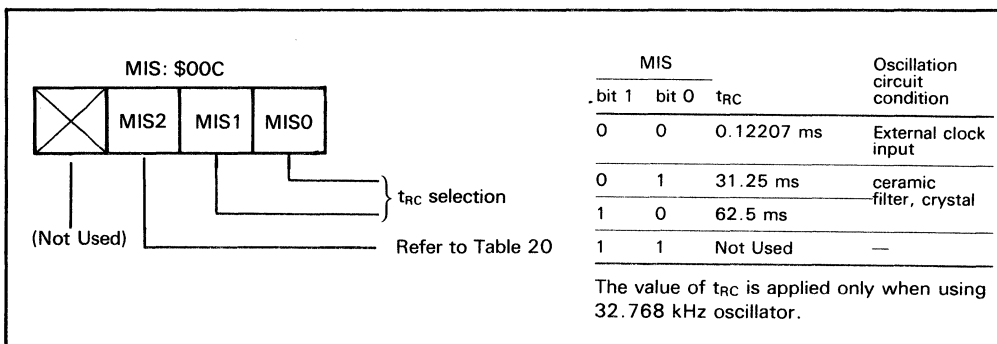

Figure 30. Miscellaneous Register
(T) depends on the state of the miscellaneous register as shown in figure 30.